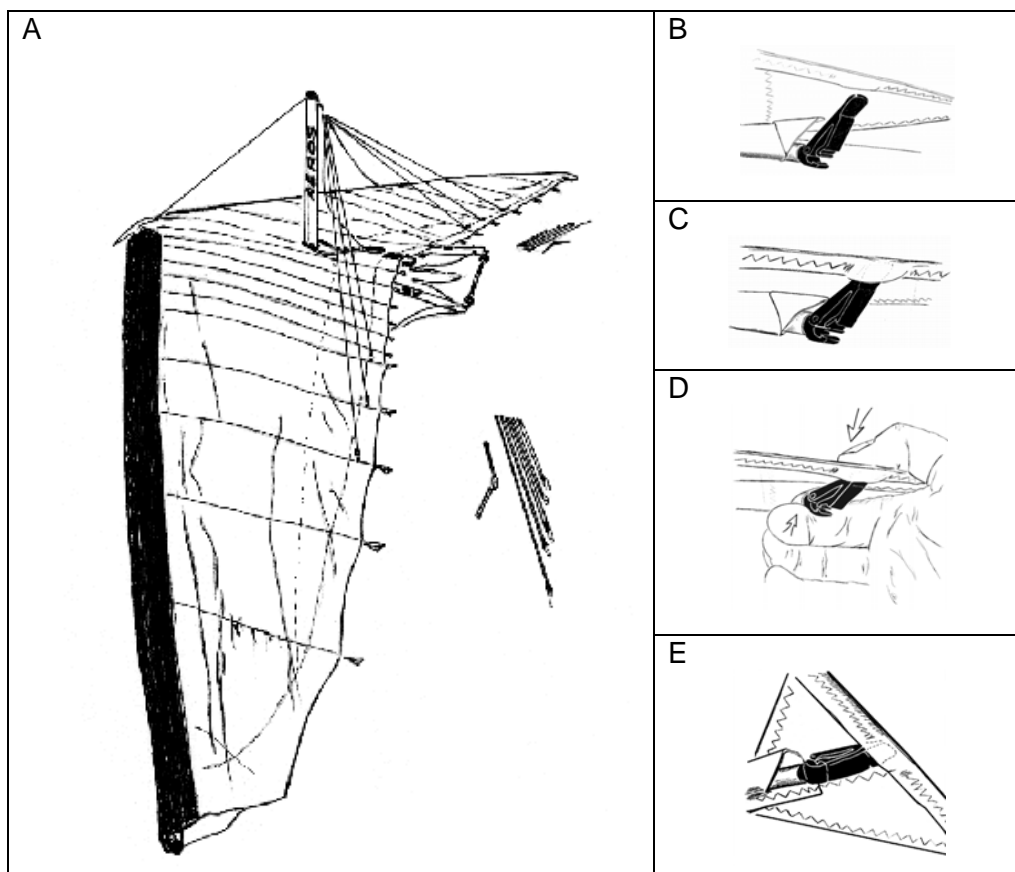

Fig.16
2.2.10. Install the lever batten tips into the hem of the trailing edge. At each batten, make sure the opening in the underside of the trailing edge hem is spread to accept the tab on the batten tip. Make sure the tab slides fully into the hem (Fig. 16). Except battens #9, 10, 11 (it should be making after sail tensioning).